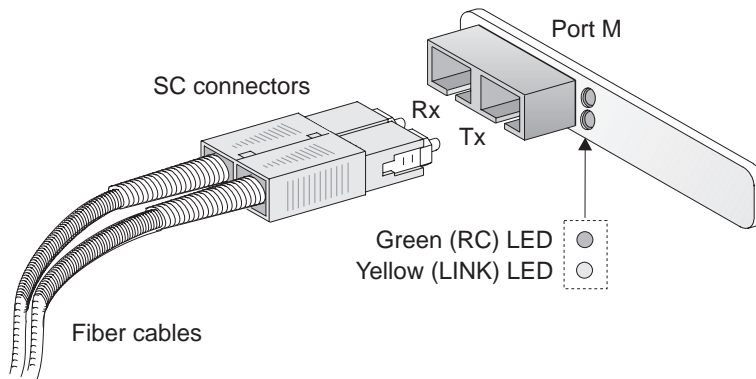

Figure 2-5. PB04511-002 Single Attach SC Fiber Connection
- If you have a single attach fiber PB04511-002, see Figure 2-5 on page 14.